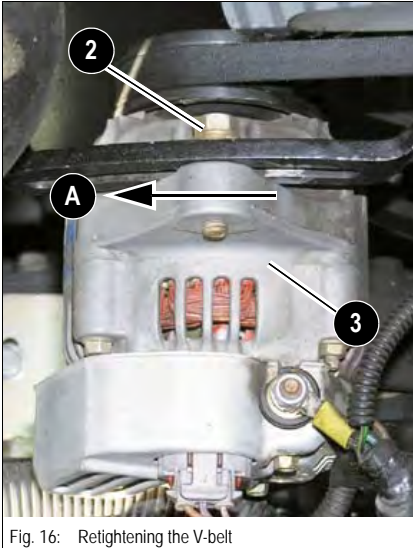

Fig. 16: Retightening the V-belt
- ☞ Use a suitable tool to push the alternator in the direction of arrow **A** until reaching the correct V-belt tension (fig. 16).